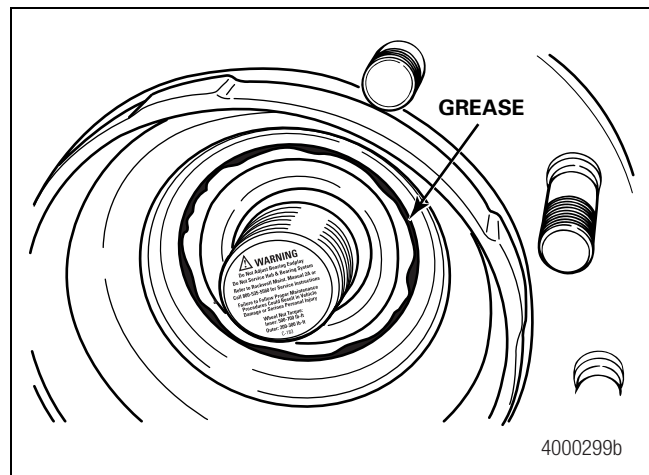

Figure 6.15
2. Remove the hubcap. The outboard and inboard seals may purge small amounts of grease that are visible during inspection. Figure 6.15. This is a normal occurrence.